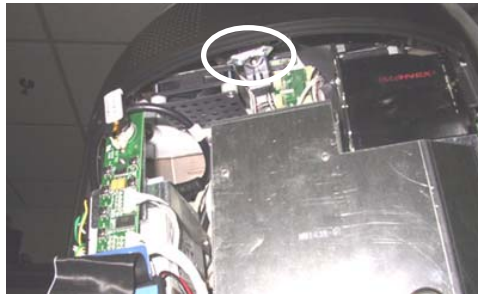

FIGURE 1 - ROTARY DRAW LATCH INSIDE TOP COVER
3. Reach under the center of the top of the cover to locate the rotary draw latch (see Figure 1). Turn the wing on the latch counterclockwise to disengage.